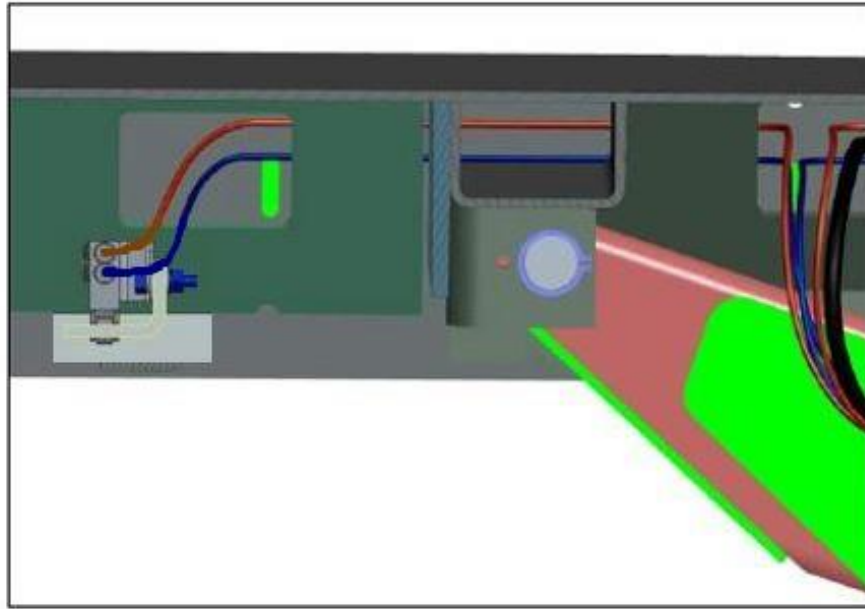

Figure 12a - Equalizing Pneumatic Switch. (View under LS Deck - Front)
There are three (3) pneumatic limit switches on this lift. Each runway is outfitted with an individual equalizing pneumatic switch mounted on a bracket located under the front of the runway. The third pneumatic switch, used for height limit detection, is located under the rear slip plate area on the left scissor assembly. Each Pneumatic Switch has a Ø4mm air supply line (Red) and a Ø4mm air return line (Blue). See Figure 12a & 12b.